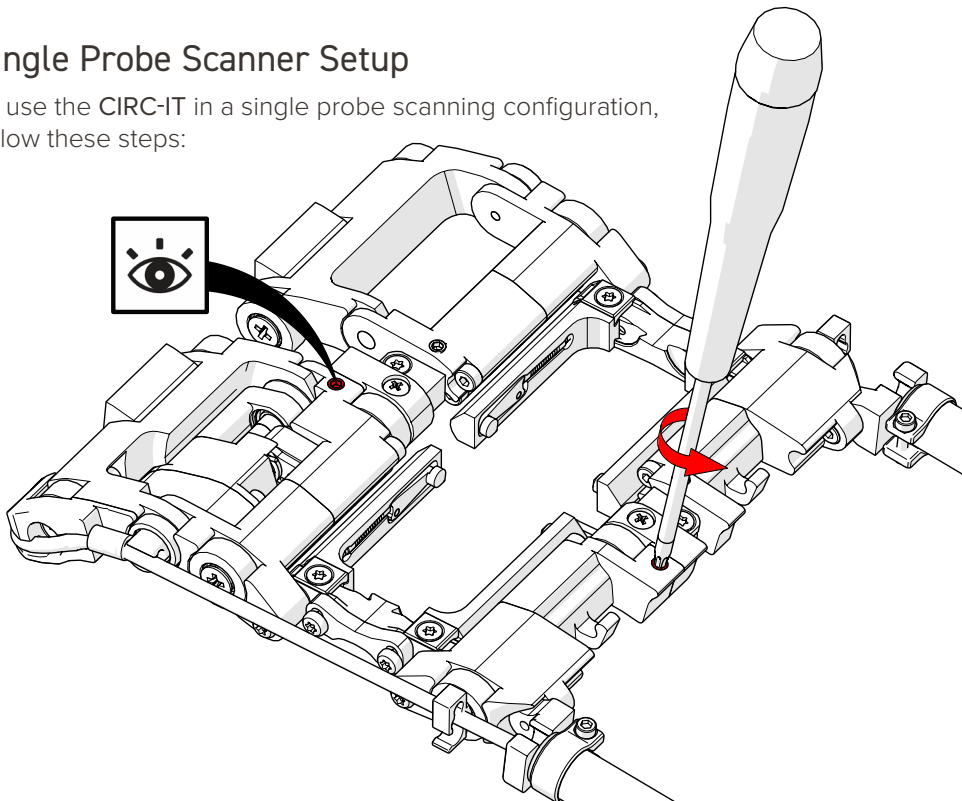

Fig. 49 - Loosen crossbar retaining screws
1. Loosen the crossbar retaining screws (Fig. 49).